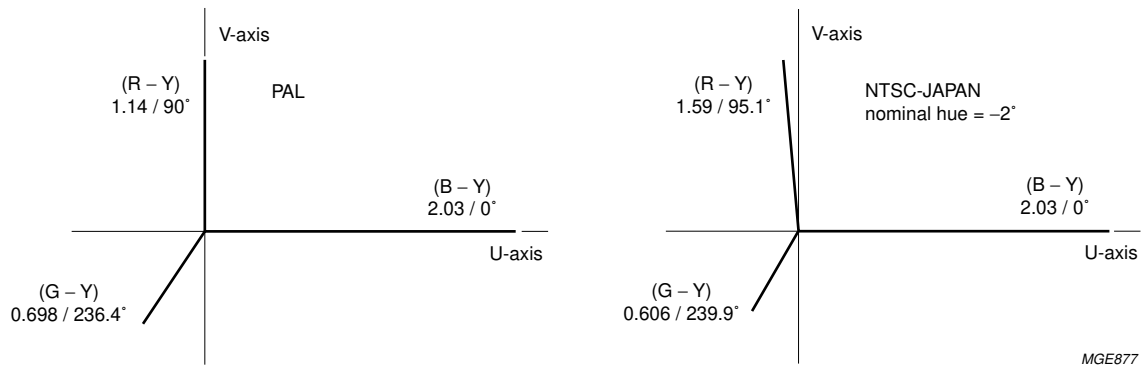

Fig.11 Demodulation axes.
- For the demodulation axis see Fig.11.